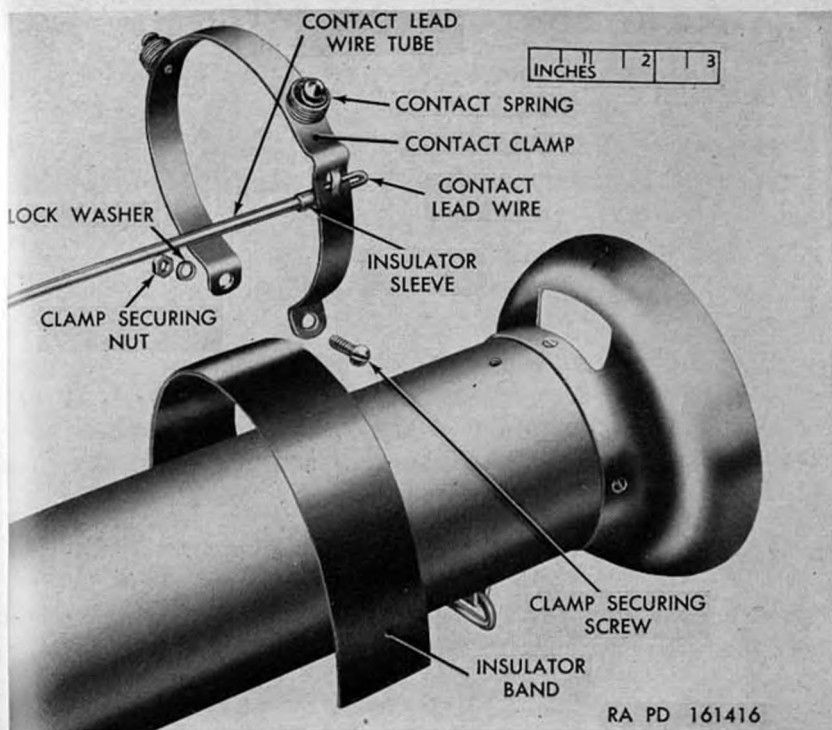

Figure 47. Contact clamp and insulating band.
a. Removal of the contact clamp (fig. 47) requires opening the soldered connection of the contact lead wire.
To install the contact clamp (fig. 47), wrap the insulating band around the barrel and pull the clamp over it in its proper position. See that the clamp is approximately centered on the insulating band. Make sure the clamp is faced around, so that the small loop fits over the insulator sleeve on the aluminum tube of the contact lead wire. Be sure that the insulator sleeve completely separates the clamp from the tube of the contact lead wire. Install the screw, nut, and lock washer in the clamp and tighten them.